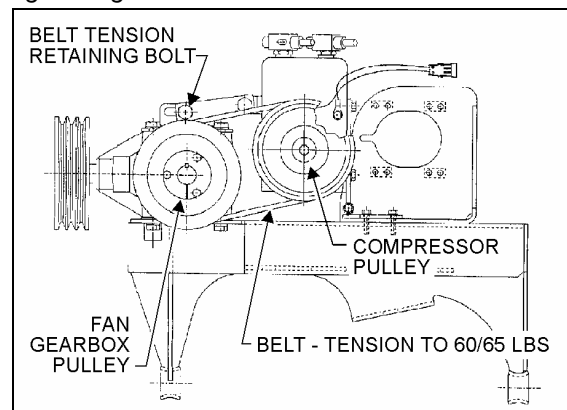

FIGURE 34: SMALL A/C COMPRESSOR INST. 05018A
- Tighten belt to 60/65 lbf•in (6,5/7 N•m) (Fig. 34), using a belt tension gauge, as per